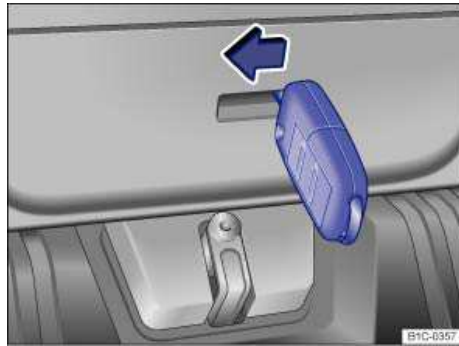

Fig. 150 View from luggage compartment: Opening the rear hatch.
- Insert the key into the slot on the rear hatch ⇒ fig. 150.